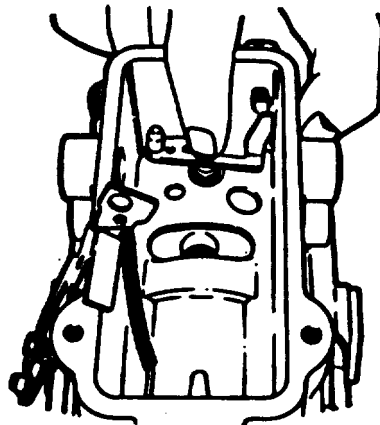

FIGURE 3-80. Installing Metering Valve
- as. Install spring (49), shim (48), and metering valve/arm assembly into bore in housing. Depress and rotate valve several times to ensure freedom of movement. If valve sticks, dean off with clean calibrating oil, refer to FIGURE 3-80.